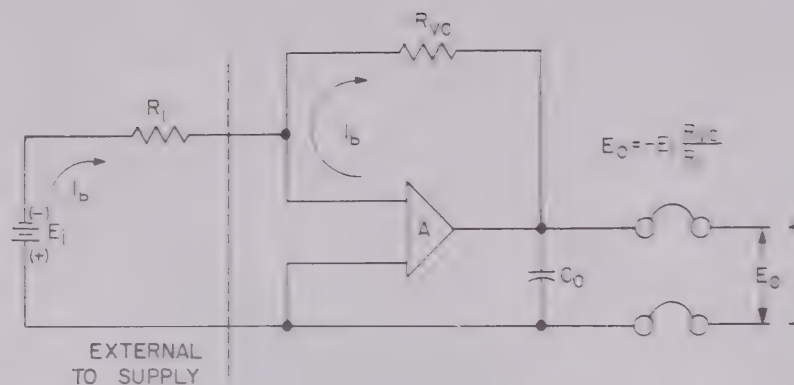

FIG. 3-4 VOLTAGE PROGRAMMING, OPERATIONAL NOTATION
which represents the closed loop gain of the system, is held constant, the output voltage E_o will vary linearly with E_i . Referring back to equation (4) we see that the expression is similar to the inverted amplifier equation for an operational amplifier. The voltage programmed power supply does in fact become a unipolar power amplifier with potentially very high power gain but with limited frequency response. (Refer to Fig. 3-4). The limited frequency response is largely due to the effect of the output capacitor C_o acting as a low-pass filter and preventing the output voltage (E_o) from varying rapidly. The range in which E_o can be varied is limited only by the maximum output voltage of the power supply and by the leakage current of the comparison amplifier. This leakage current is in the order of 10 μ A flowing opposite to I_b , the programming current. It is therefore desirable to select I_b sufficiently high, in order to keep the leakage current insignificant with respect to I_b . For critical applications, the leakage current can be compensated out. The "Kepco Power Supply Handbook" provides information towards this end.